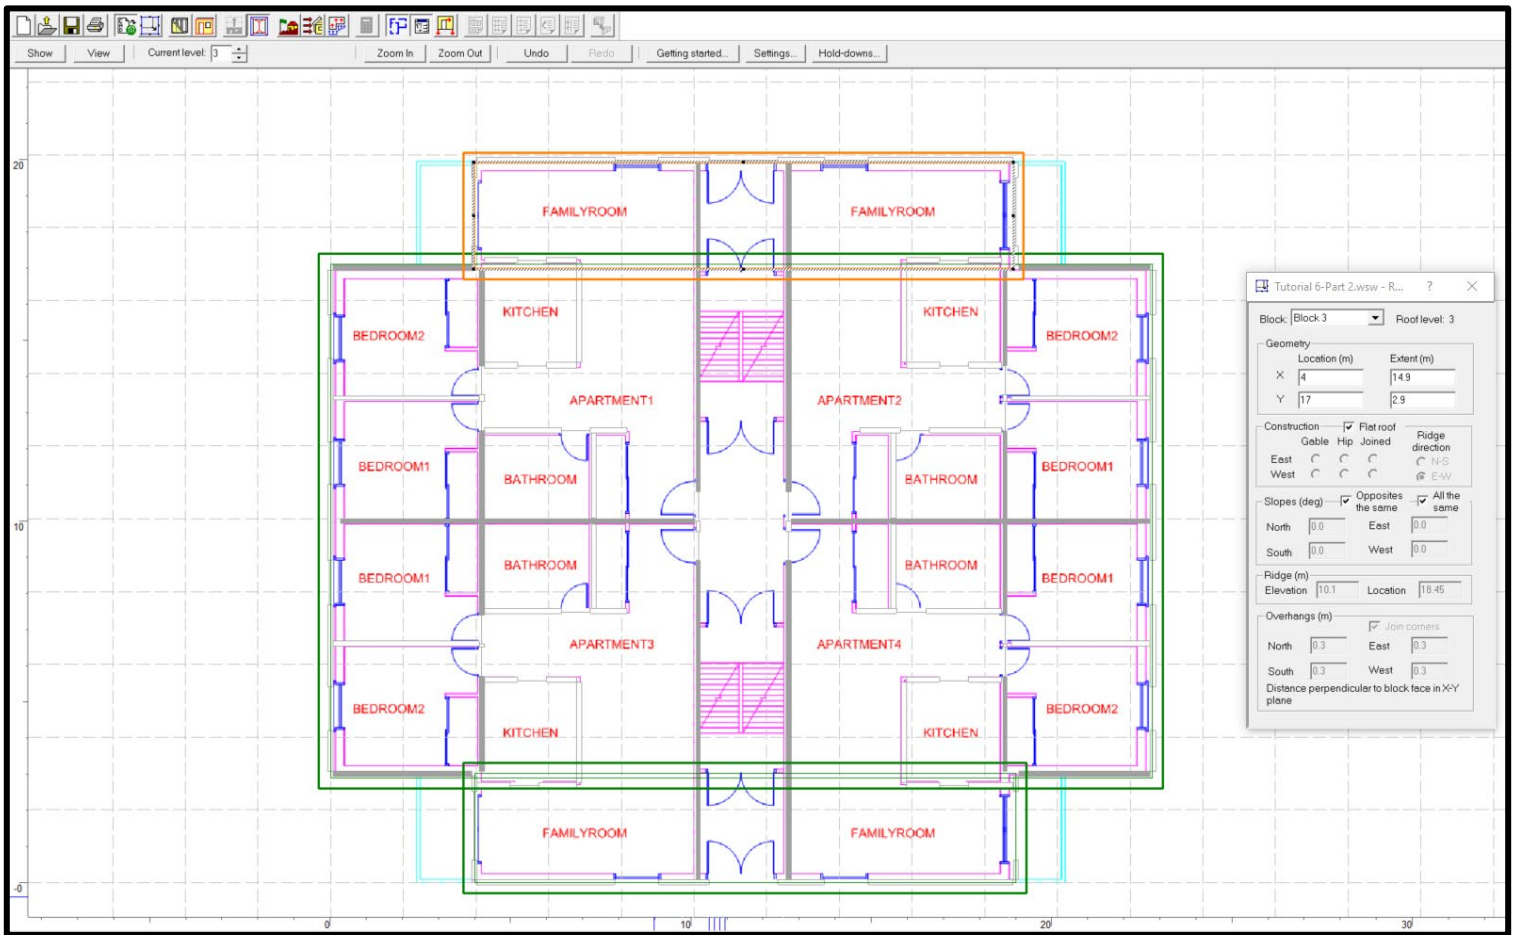

Figure 20: *Shearwalls Tutorial 6 – Third Roof Block*
6. Create and adjust a third roof block as shown in Figure 20.